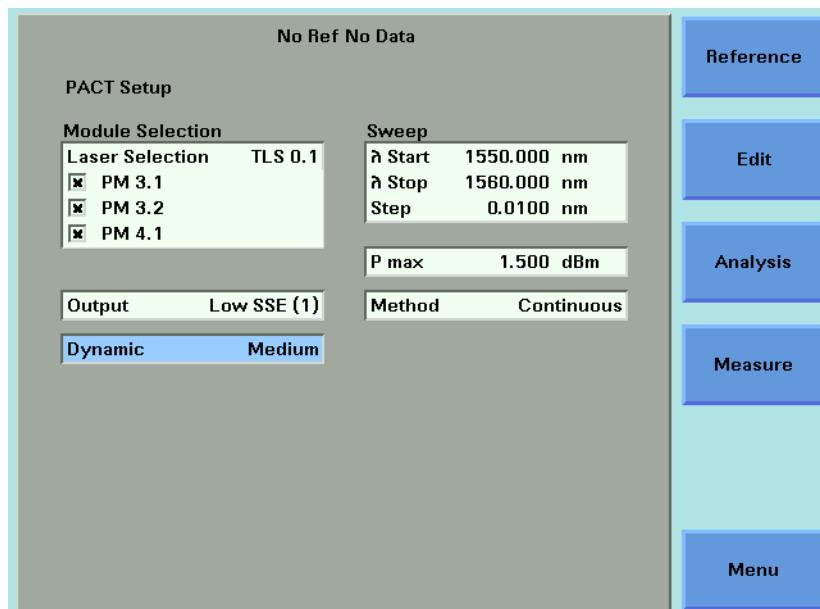

Figure 164 The PACT Setup Screen
- 3 Press the *App* hardkey. The Applications menu, as shown in Figure 164 , appears.
- 4 Move to <PACT> and press *Enter*. The PACT Setup Screen, as shown in Figure 164 , appears.